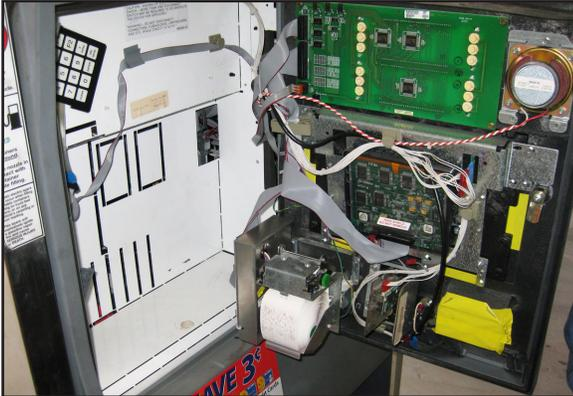

Figure 1: Open Doors
47. Tighten the three bolts at the bottom of each main door assembly. See figure 1.